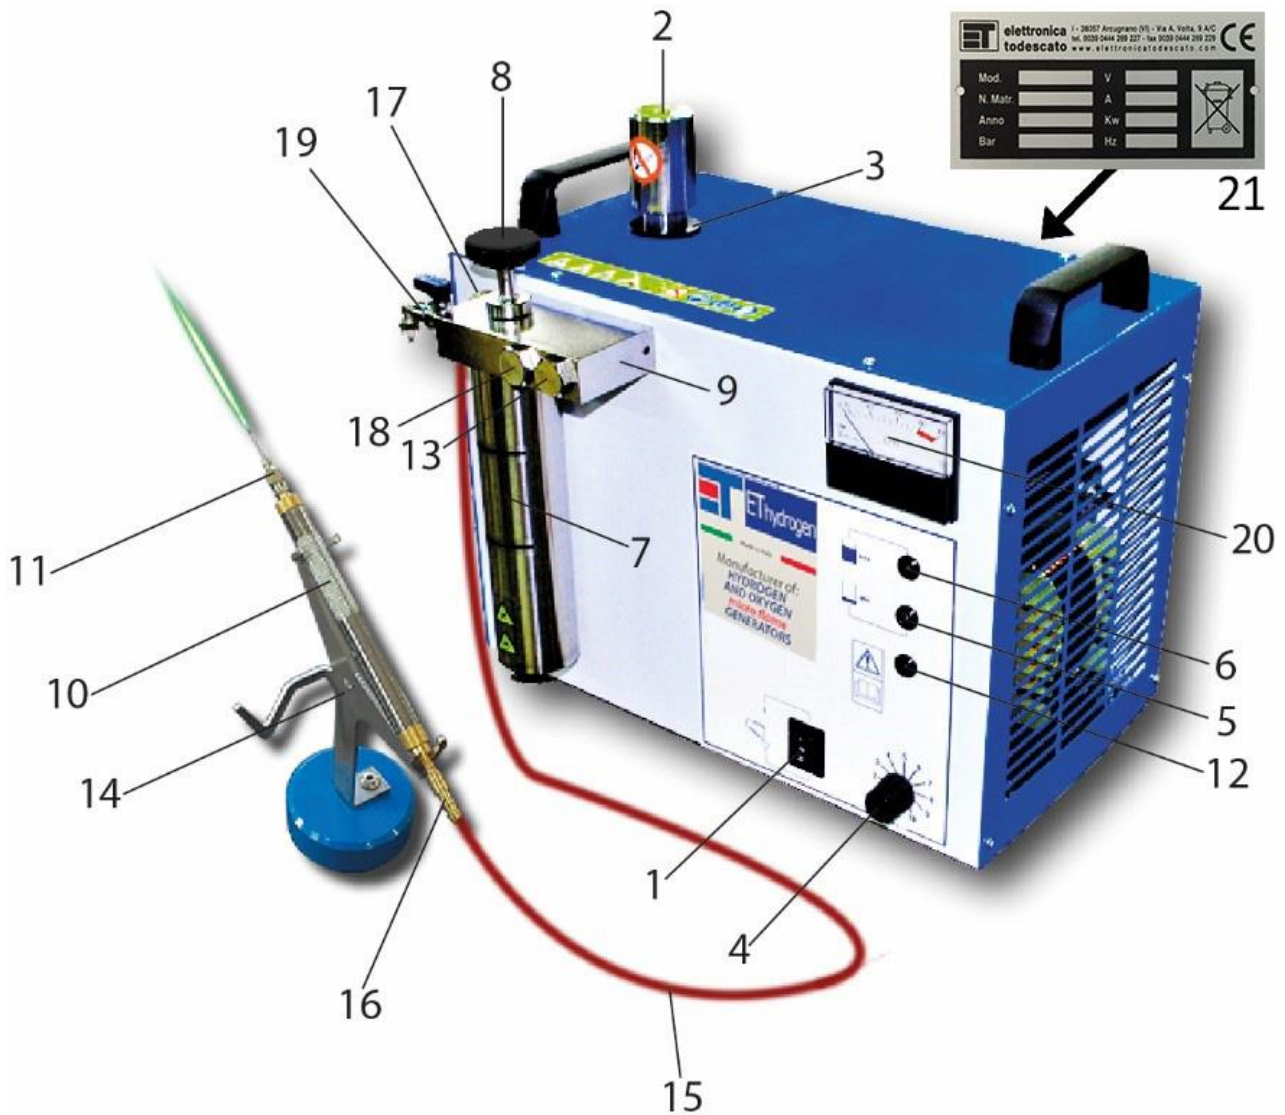

FIG. 1- WELDER AND COMPONENTS
Each machine is equipped of identification plate (fig.1 # 21), giving the following information:
Legend Fig.1
- Burner tip (Fig. 1 # 11).
- Torch holder (Fig. 1 # 14).